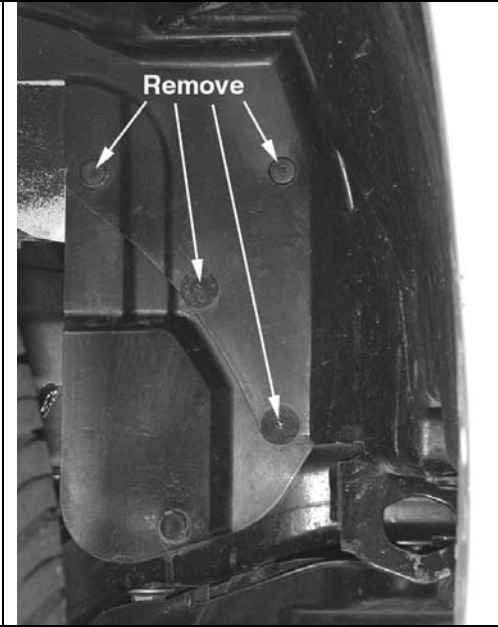

Fig. 4
- g) With the front wheels turned all the way to the right, locate the plastic clips just forward of the suspension holding the liner to the passenger side wheel well and remove them. **(Fig.4)**